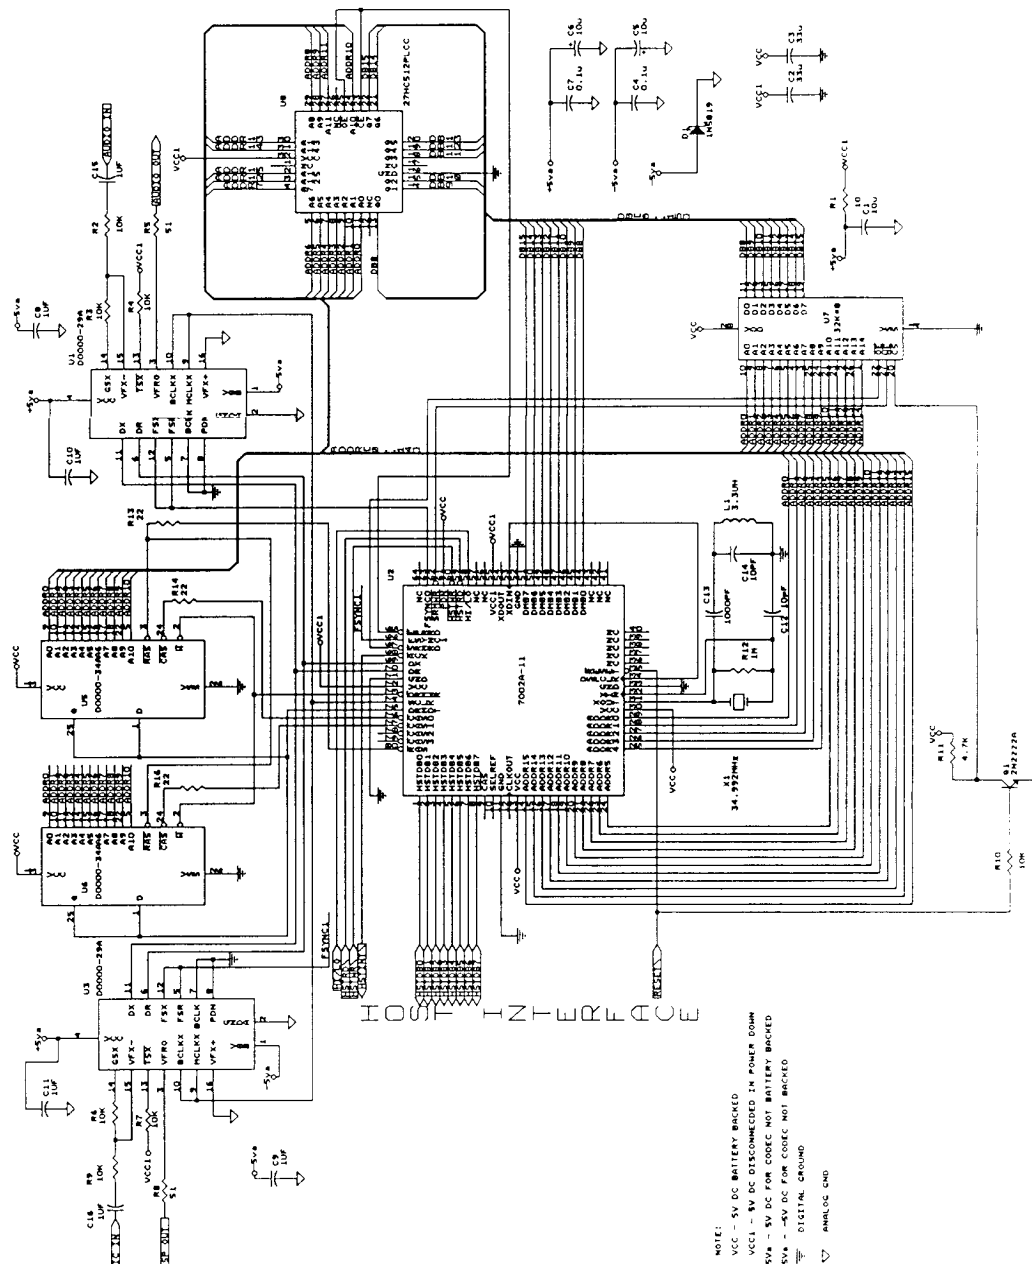

Figure 14. Chipset Interconnection Diagram with One Crystal
1. Single, high-frequency crystal oscillator for both operation and power down modes. A 34.992 MHz crystal is connected to XOUT and XIN (pins 21-21). The SELREF pin (pin 10) should be open and DSPCLK (pin 34) should be connected to XDIN (pin 53). See Figure 14.